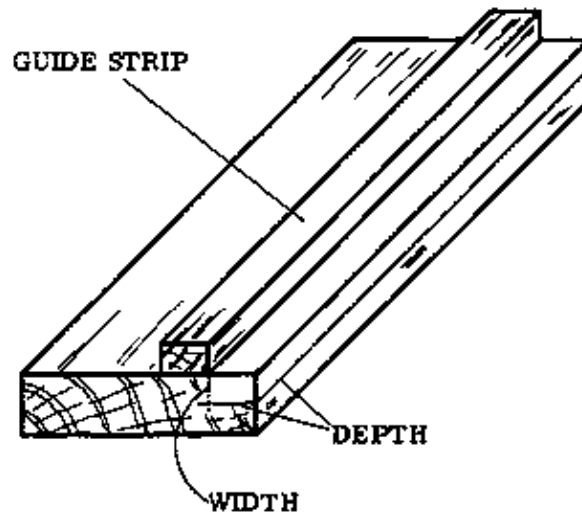

Fig. 2
- Mark the depth and width of the rebate with a marking gauge (Fig. 2).
- Fix a wooden guide strip along the line that marks the width of the rebate (Fig. 2).